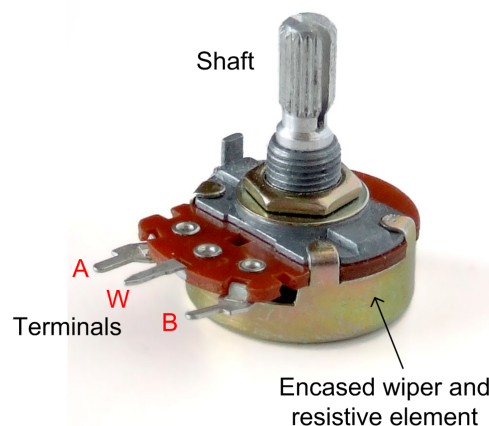

Figure 1.1: Schematic diagram of a potentiometer (source: Wikipedia).
A rotary potentiometer, or pot, is a manually controlled variable resistor. See the example shown in Figure 1.1. It typically consists of an exposed shaft, three terminals (A, W, and B), an encased internal resistive element shaped in a circular pattern, and a sliding contact known as a wiper. By rotating the shaft, the internal wiper makes contact with the resistive element at different positions, causing a change in resistance when measured between the center terminal (W) and either of the side terminals (A or B). The total resistance of the potentiometer can be measured by clamping a multimeter to terminals A and B.